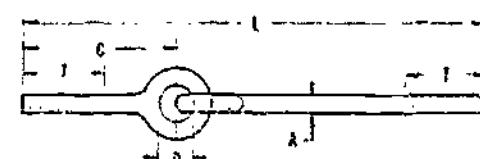

Figure 17-14. Welded Linked-Eye Rod
p) The welded linked-eye rod shown in Figure 17-14 is recommended for heavy-duty service where pivoted connections are required. When ordering this type of rod, the dimensions of A, C, D, L, and T must be specified.